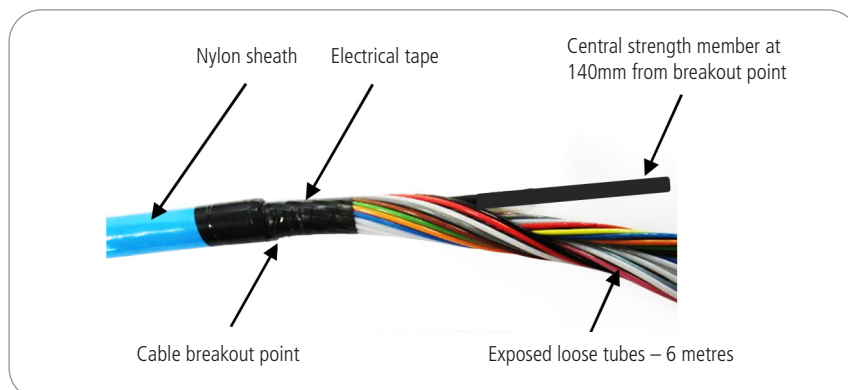

Figure 2.
- The use of rubber vulcanising or electrical tape at the cable breakout point is recommended to prevent tube kinking as shown in **Figure 2**.